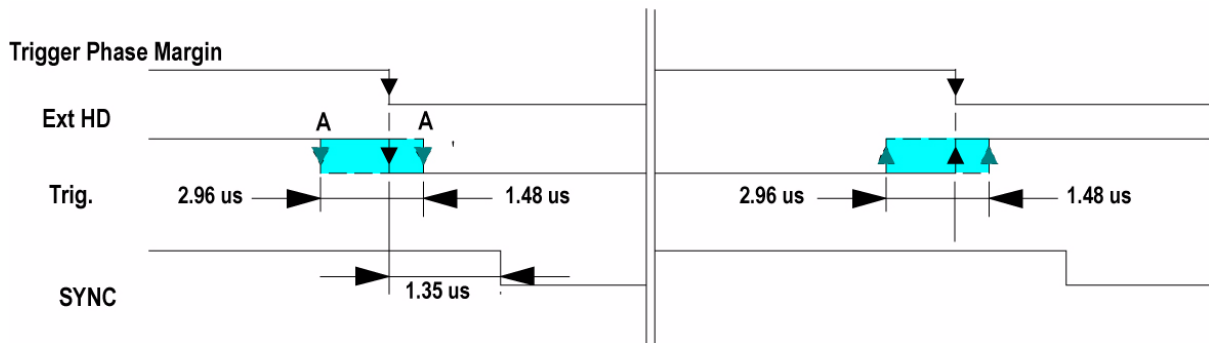

FIGURE 19. Trigger to ext. HD phase relation
To avoid <1H time jitter in HD synchronous mode, it is recommended the trigger be synchronized to the HD as shown in Figure 19. If trigger transitions are inside the limits shaded blue, the accumulation jitter is minimal.
selected shutter time. To avoid up to 1LVAL time jitter in HD synchronous accumulation, it is recommended to synchronize the trigger to HD (see Figure 19 on page 14).
- To avoid ≤ 1 LVAL jitter if LS=0, ext. HD/Trigger phase relations as shown in Figure 19 on page 14.